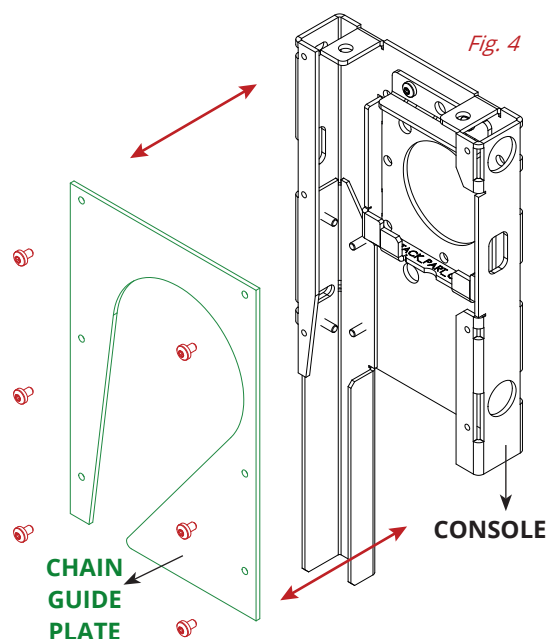

Fig. 4
**2 / UNSCREW THE CHAIN GUIDE PLATE FROM EACH OF THE 2 BRACKETS. (FIG.4).**